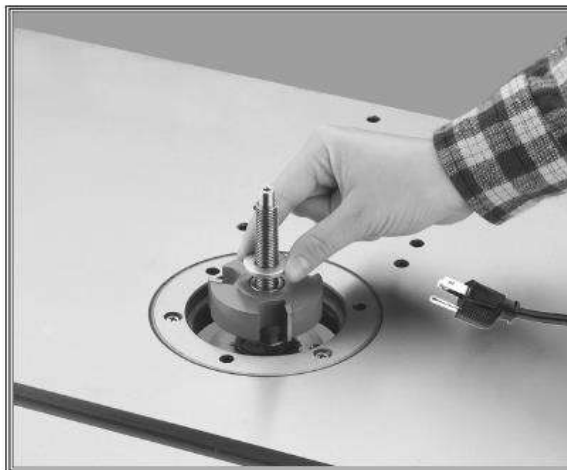

Figure20
- 4.** Place the spindle washer onto the spindle as shown in **Figure 20**